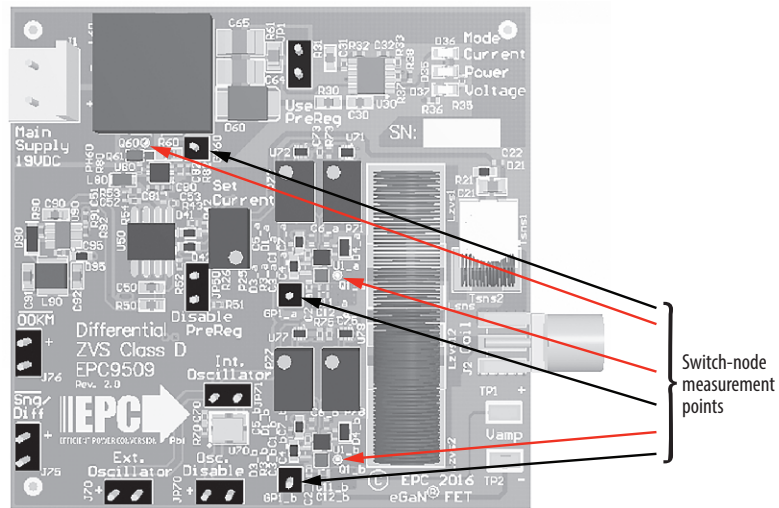

Figure 9: Proper measurement of the switch nodes using the hole and ground post.
3. Connect a LOW capacitance oscilloscope probe to the probe-hole and ground post indicated in figure 9.
1. When measuring the high frequency content switch-node (Source Coil Voltage), care must be taken to avoid long ground leads. An oscilloscope probe connection (preferred method) has been built into the board to simplify the measurement of the Source Coil voltage (shown in figure 9).